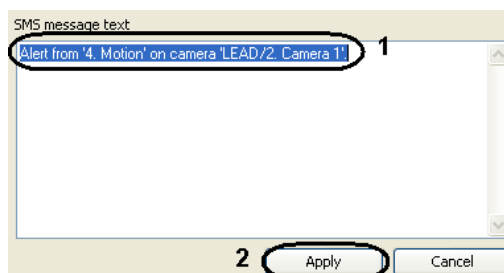

Fig. 6.4—35 SMS message text
- To close the window and save changes, click **Apply** (see Fig. 6.4—35, 2).